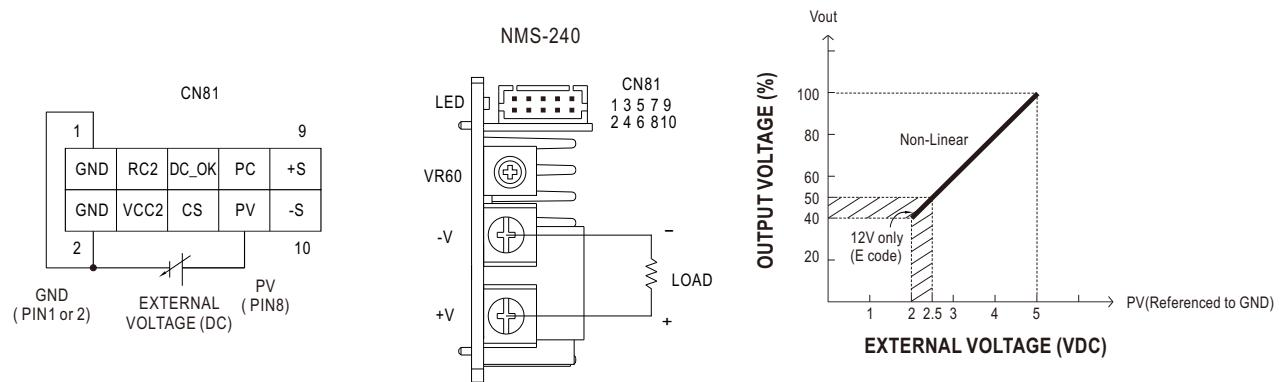

Figure 5-1
5.3.2 Output Voltage Programming (PV)
- ◎ Connect the external DC source to PV (PIN8) and GND (PIN 1 or 2) on CN81, as shown in Figure 5-1(left).
- ◎ Relationship between the output voltage and the external DC voltage is shown in Figure 5-1(right).